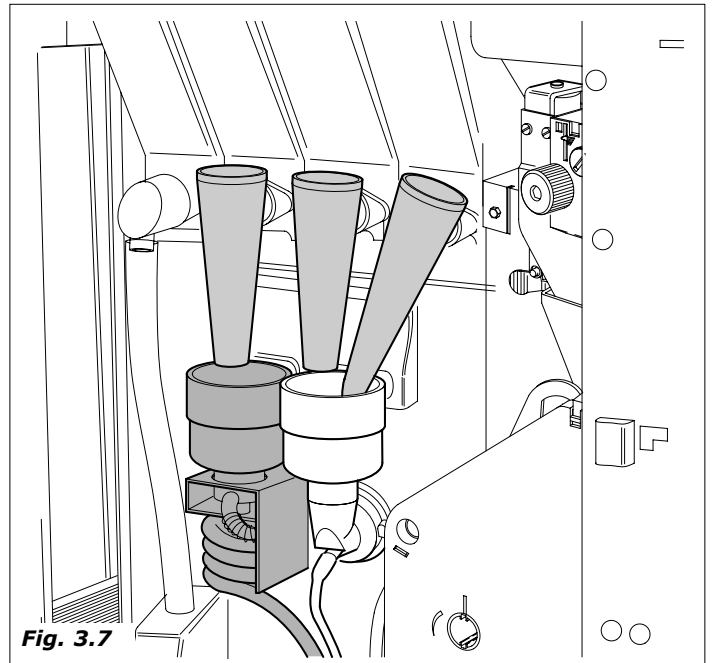

Fig. 3.7
- If present, the whipper motor is activated (Fig.3.7).